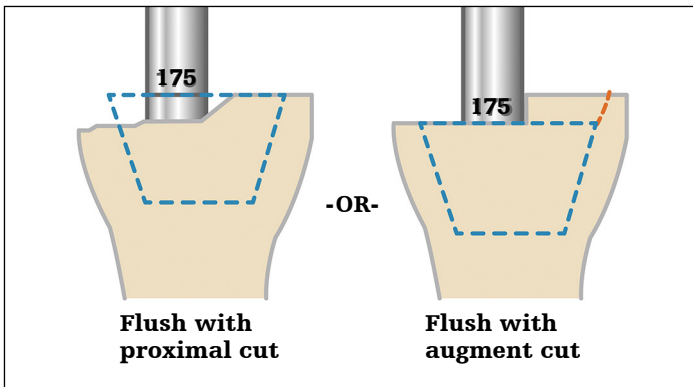

Figure 41
- ▶ **Note:** If Tibial Augments are to be used, ream until the 175mm marking is flush with the augment cut. Use the bottom of the 175mm line marking as the depth reference (**Figure 41**).